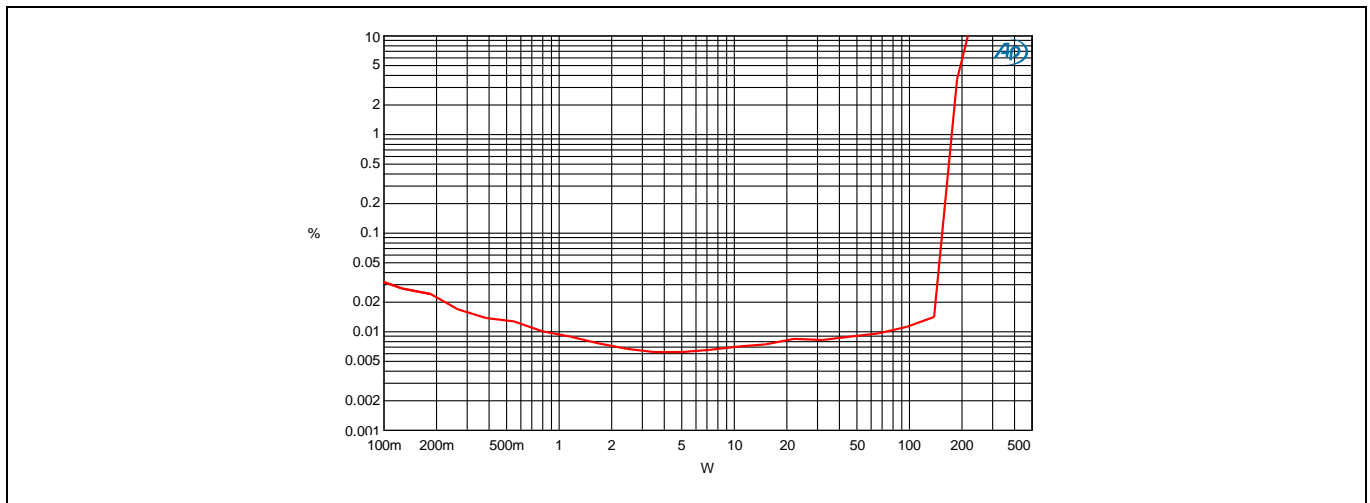

Figure 5 Power vs. THD+N  $4\ \Omega$  load
11. Run the AP test as shown in Figures 5 to 12, below.